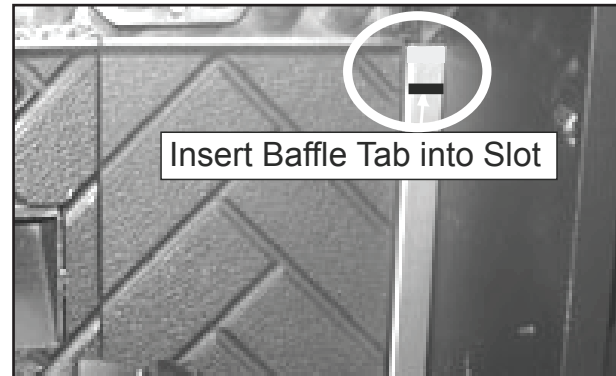

Figure 24.3
6. The baffle does not completely cover the top of the firebox. There is an opening as shown in **Figure 24.3.**